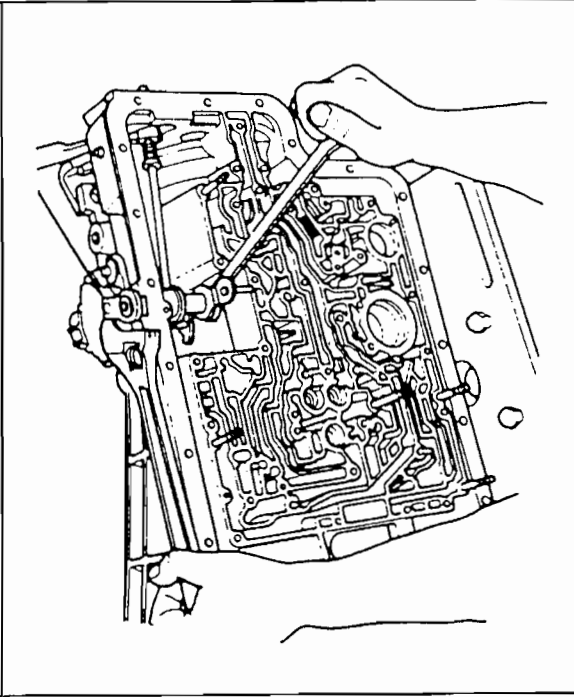

FIGURE 3
3. Remove lever nut while holding lever with suitable tool. (See Figure 3).